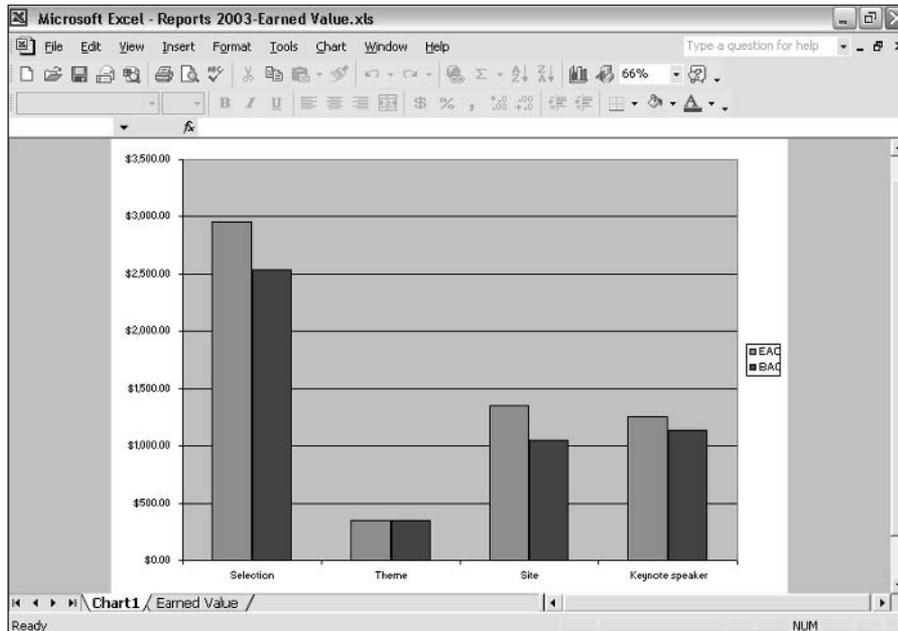
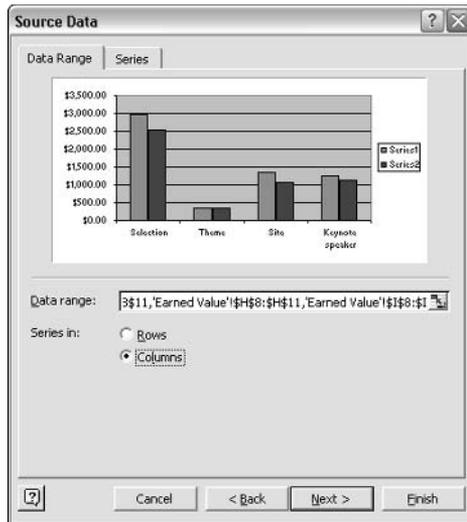

Figure 14-12: An Excel chart of all earned values for one task.
Figure 14-13: An Excel chart of one earned value for selected tasks.
Open Microsoft Excel and then choose File ⇨ Open to open the workbook that you just created. You can use Excel's Chart Wizard to create as many charts from this data as you want. For example, the chart in Figure 14-12 shows all earned values for one task, and the chart in Figure 14-13 shows one earned value for selected tasks.
To create a chart like the one shown in Figure 14-12, follow these steps:
After you finish, your chart should resemble the chart shown in Figure 14-12, which displays all earned values for one task.
To create the chart shown in Figure 14-13, use the Chart Wizard again. Then, in the second Chart Wizard dialog box, use the following settings:
- ♦ On the Data Range tab, select Columns for the Series in option. For the Data Range, select the cells containing the earned value information that you want to chart. In the chart that is shown in Figure 14-13, I charted only about half of the available tasks to keep the chart cleaner.
- ♦ On the Series tab, remove all series except for one from the Series list (otherwise your chart will be *very* messy). In the Category (X) axis labels list box, select the cells containing the task names (cells in Column B in the pictured worksheet).